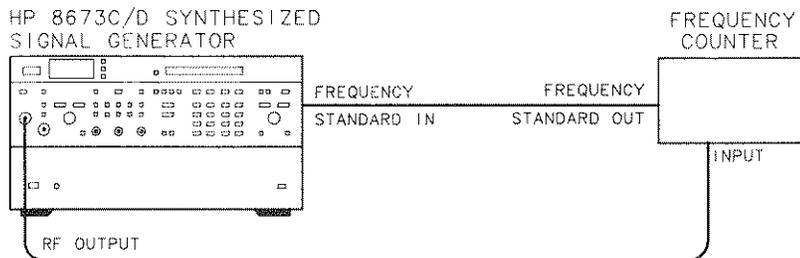

Figure 4-1. Frequency Range and Resolution Test Setup
1. Connect the equipment as shown in Figure 4-1. Set the Signal Generator rear panel **FREQ STANDARD INT/EXT** switch to **EXT**. Remove the **FREQ STANDARD** jumper and connect A3J10 to the 10 MHz frequency standard output of the frequency counter. With the Signal Generator and the frequency counter sharing a common timebase, the frequency counter should agree with the Signal Generator **FREQUENCY MHz** display ± 1 count with any selected frequency counter resolution.